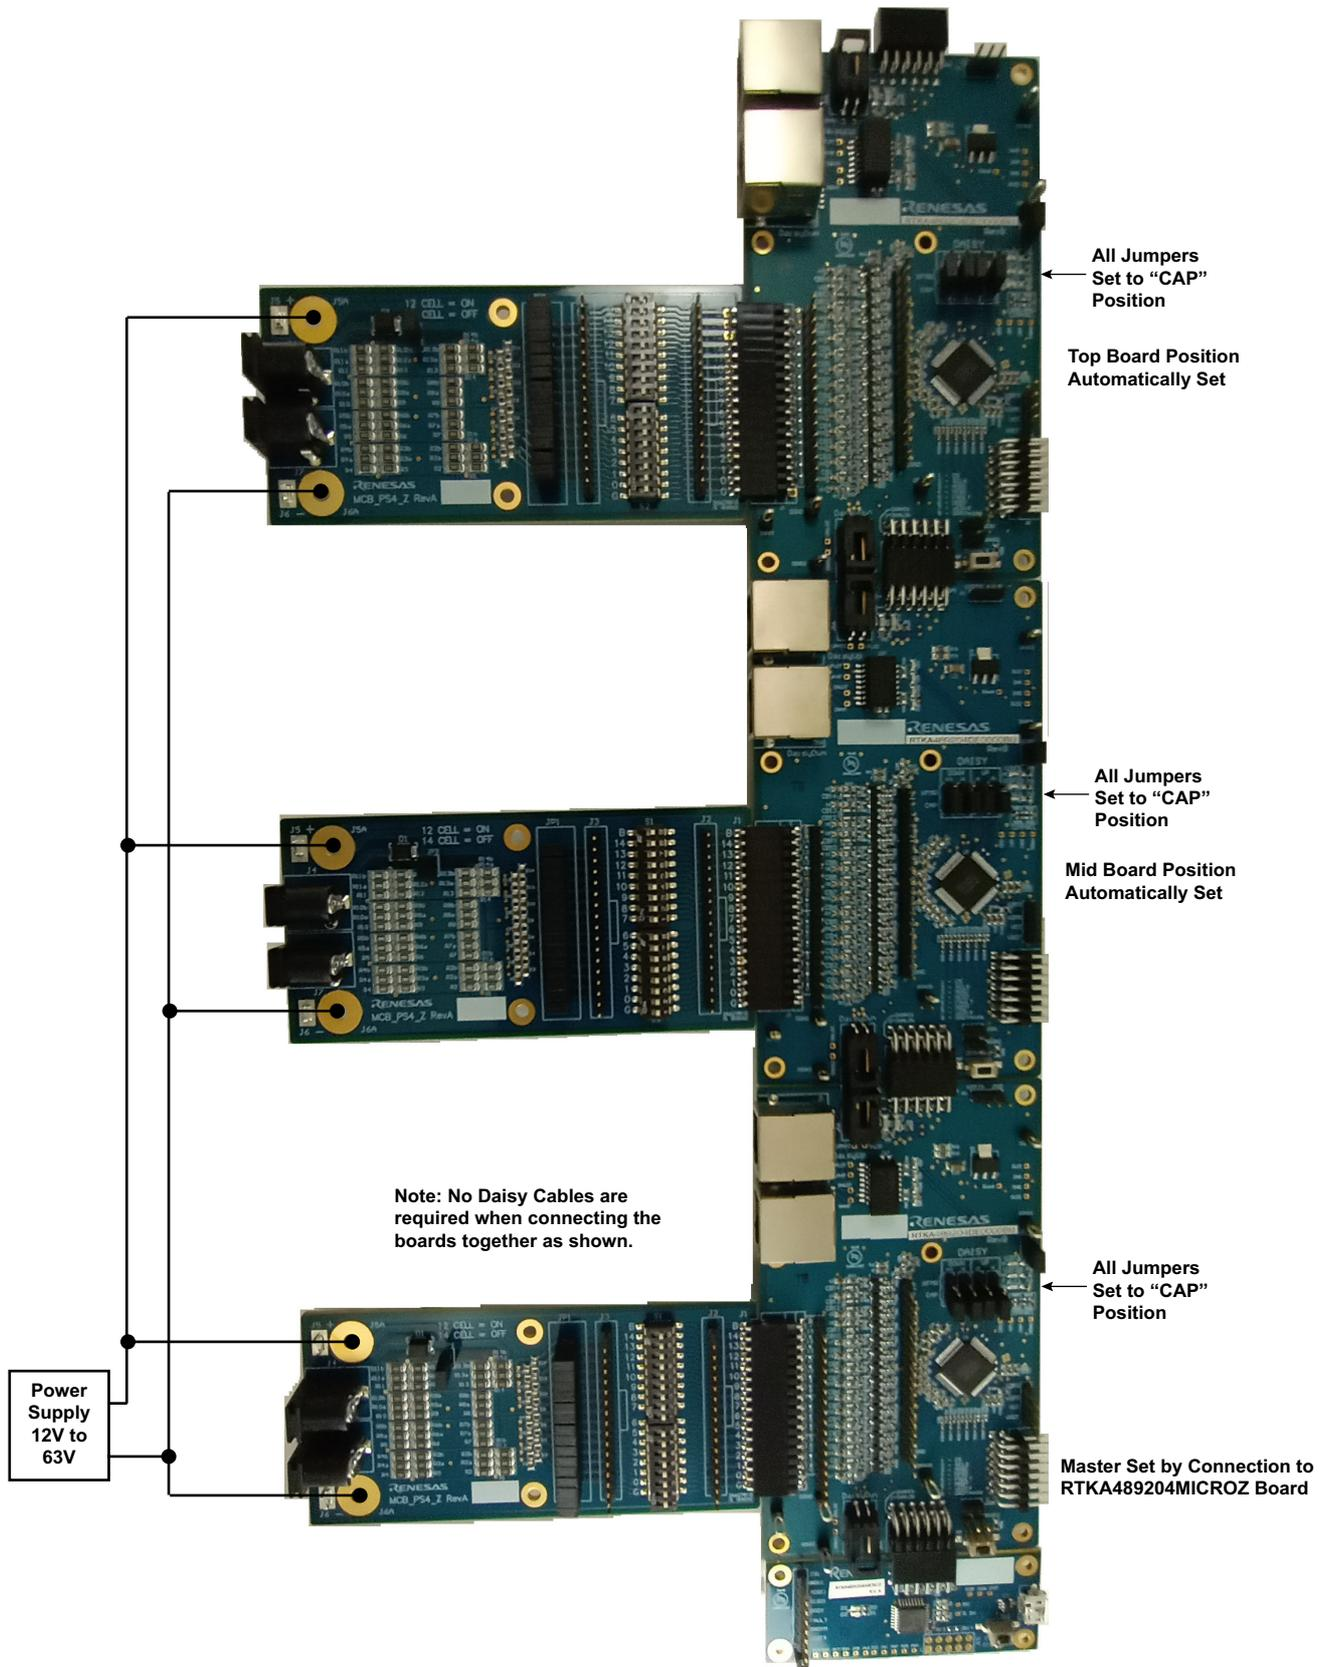
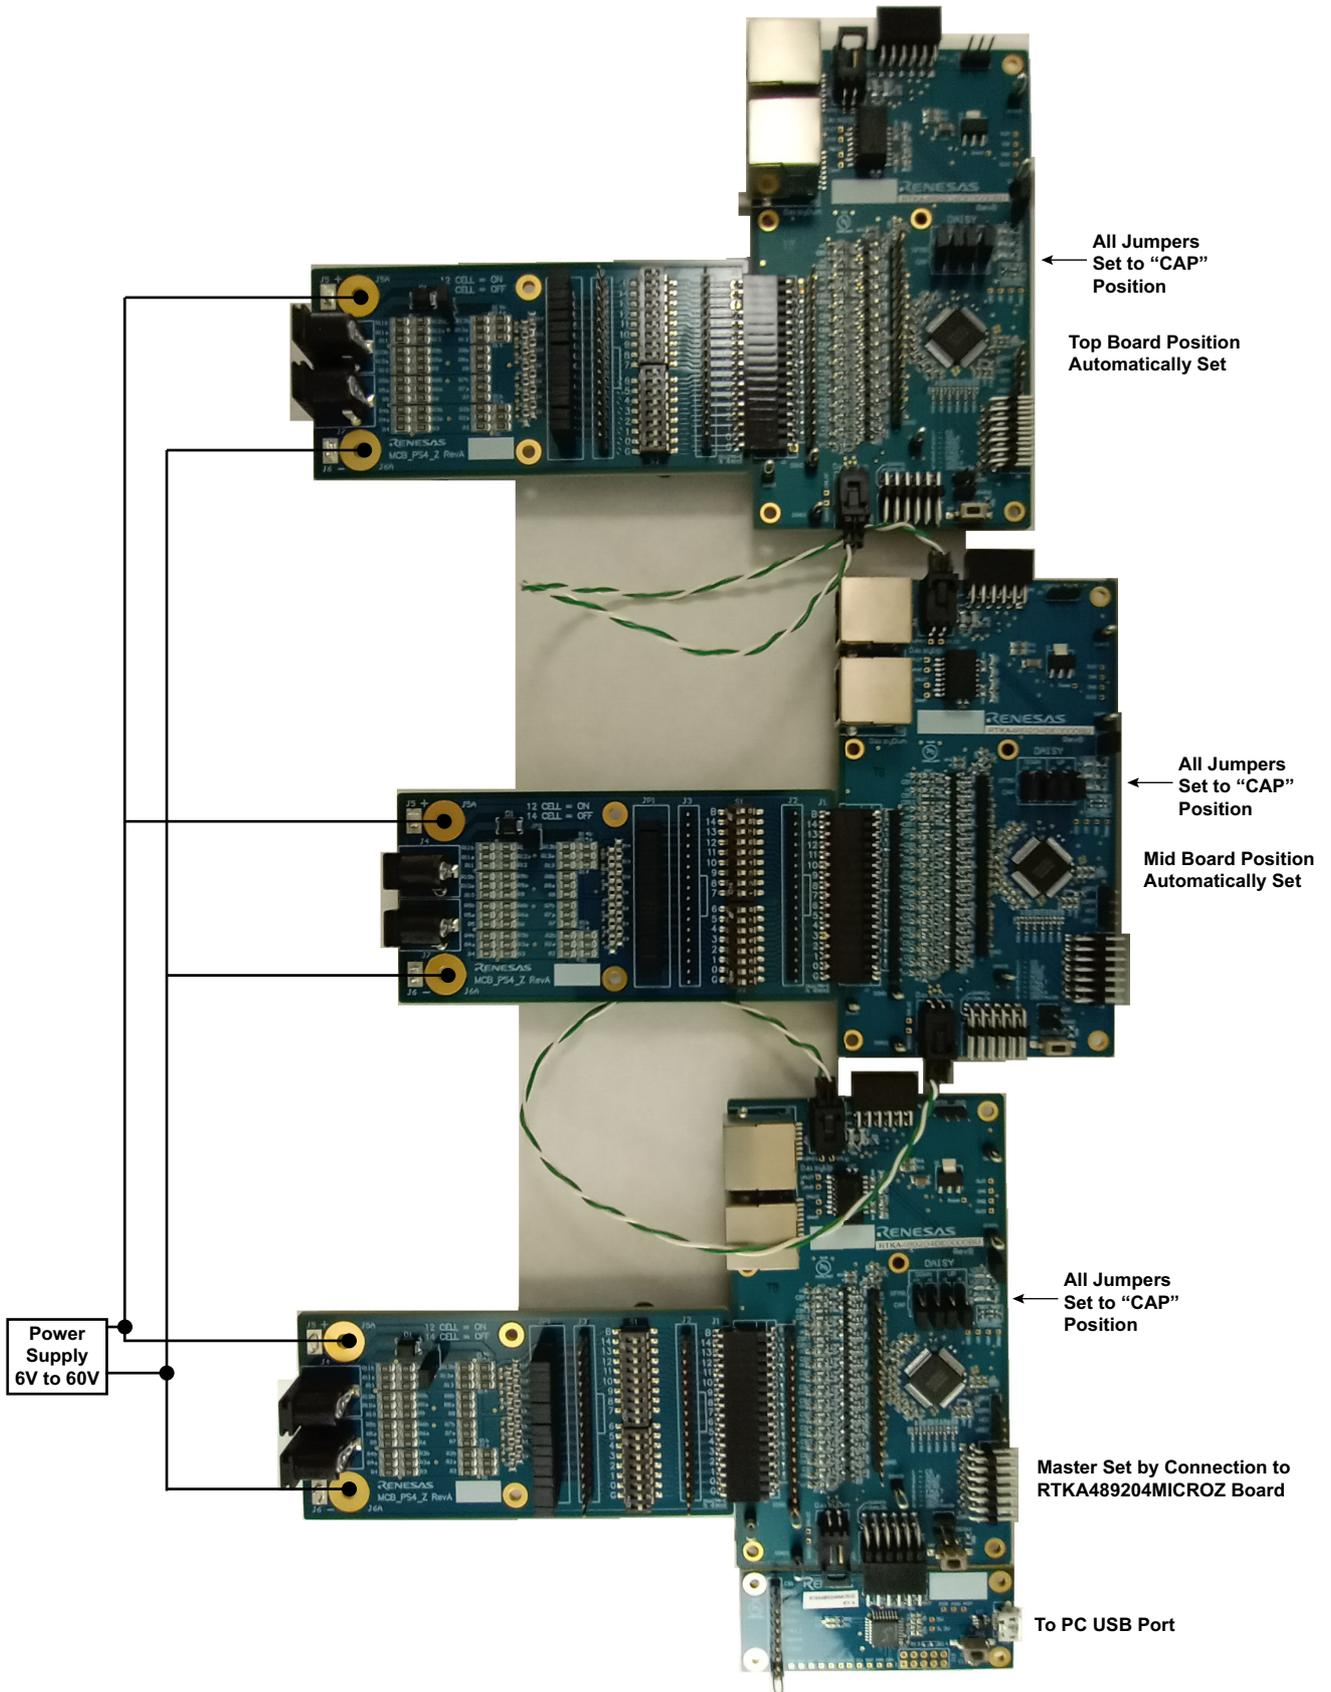

Figure 5. RTKA489204DK0000BU RevB in 36-Cell Direct Connect Daisy Chain Configuration (Capacitor)
Figure 6. RTKA489204DK000BU RevB in 36-Cell Cable Connect Daisy Chain Configuration (Capacitor)
- a. With capacitor isolation, the boards connect together directly (Figure 5) or with cables (Figure 6), or they connect using a combination of direct and cable connections.